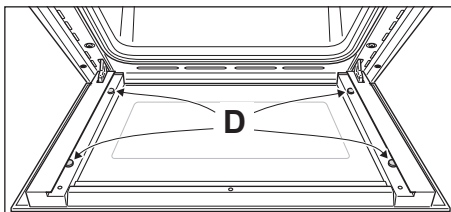

Fig. 7.14a
IMPORTANT: It is advisable, while removing the glass, to keep pressed in position the four rubber pads "D" (fig. 7.14a), by a finger, to avoid breakage or slippage of the rubber pads themselves.
- Check that the four rubber pads are in place ("D" in fig. 7.14a).